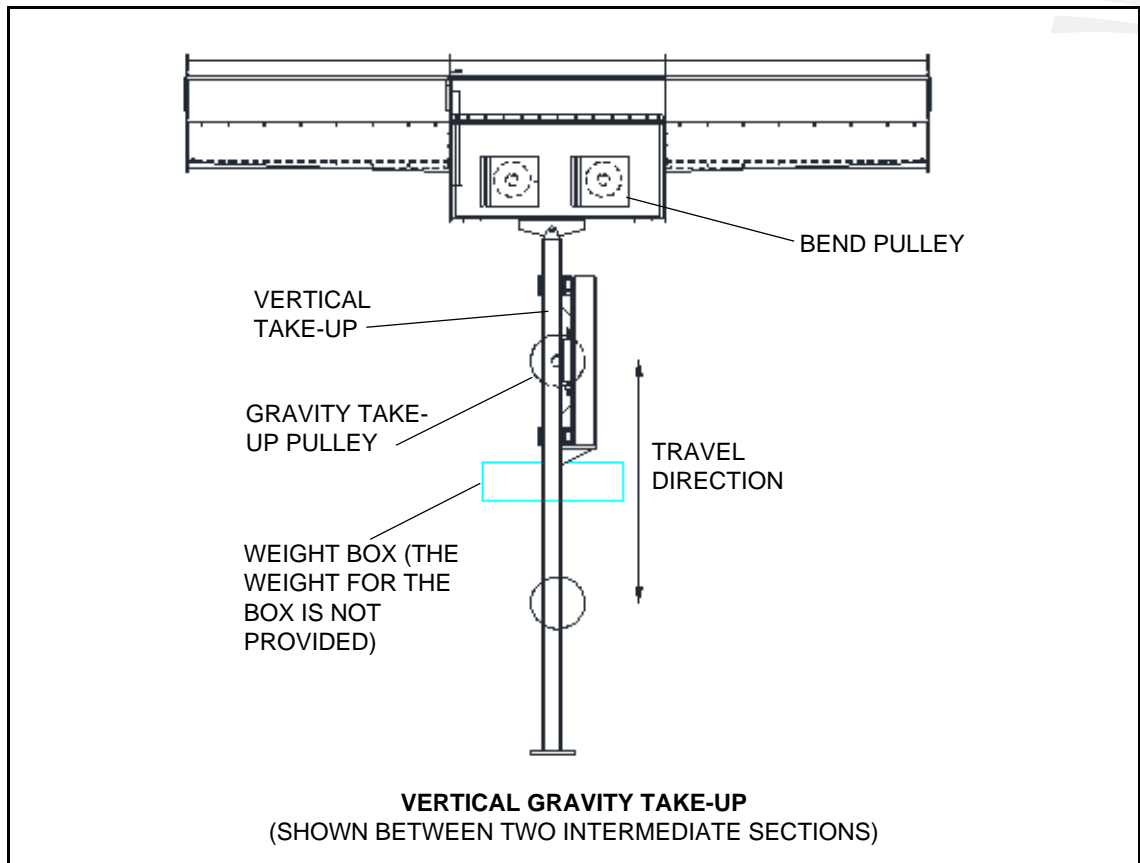

Figure 3.11
1. Install the vertical gravity take-up assembly as illustrated in Figure 3.11. Refer to the general arrangement drawing.